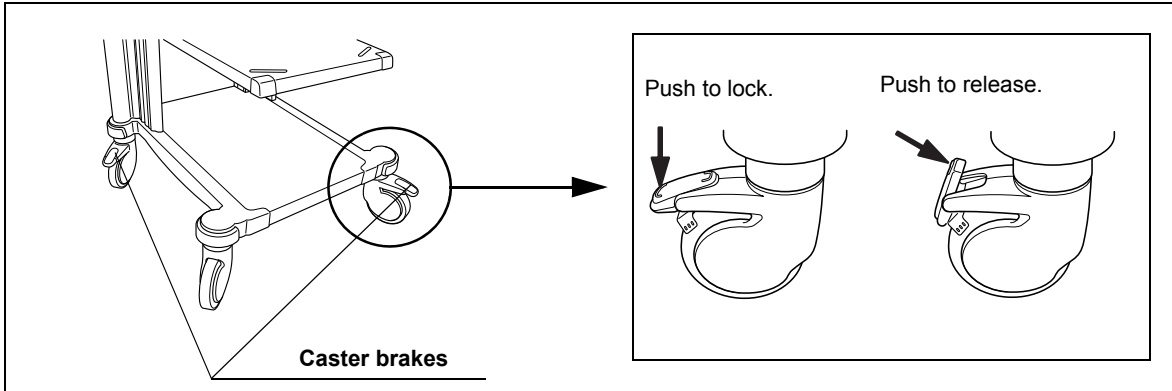

Figure 8.2
1. Place the mobile workstation on a level and flat floor. Lock the caster brakes by pushing them down (see Figure 8.2).